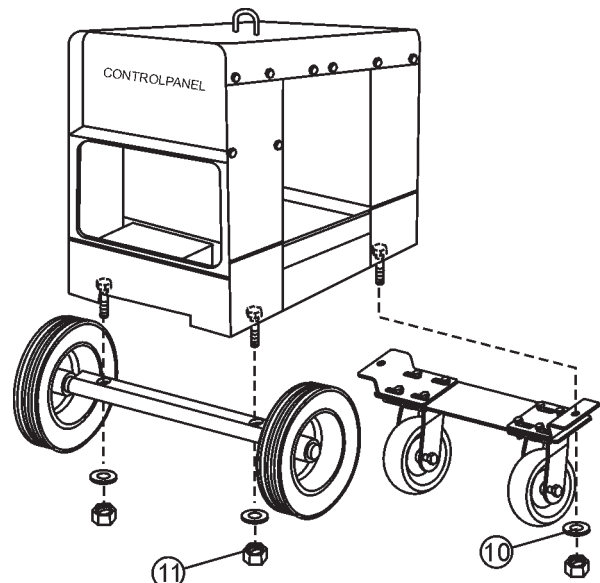

Figure 6. Secure Stationary Axle and
6. With the stationary axle facing front, lift the axle up so the bolts in the cabinet floor pass through the bolt holes on the axle. Place a washer on the bolt under the axle and secure the axle to the cabinet with a nut (Figure 6).
- Center the Caster Wheel assembly underneath the machine. Lift the Caster Wheels up so the bolts in the cabinet floor pass through the bolt holes on the caster wheel frame. Place a washer on the bolt under the castor wheel frame and secure the castor wheels to the cabinet with a nut (Figure 6).